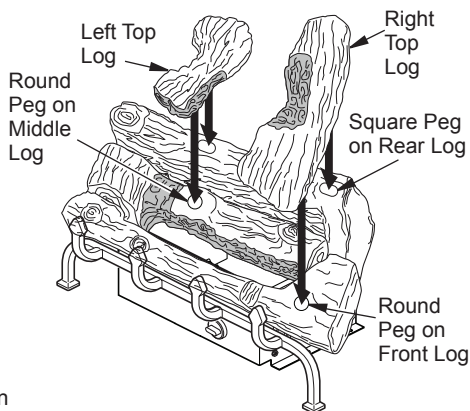

Figure 23 - Installing Left and Right Logs
4. Place left top log (#4) as shown in Figure 23. Match square peg on top of rear log (#1) with square hole on bottom of left top log (#4). Match round peg on top of middle log (#2) with round hole on bottom of left top log (#4).
5. Place right top log (#5) as shown in Figure 23. Match square peg on top of rear log (#1) with square hole on bottom of right top log (#5). Match round peg on top of front log (#3) with round hole on bottom of right top log (#5).